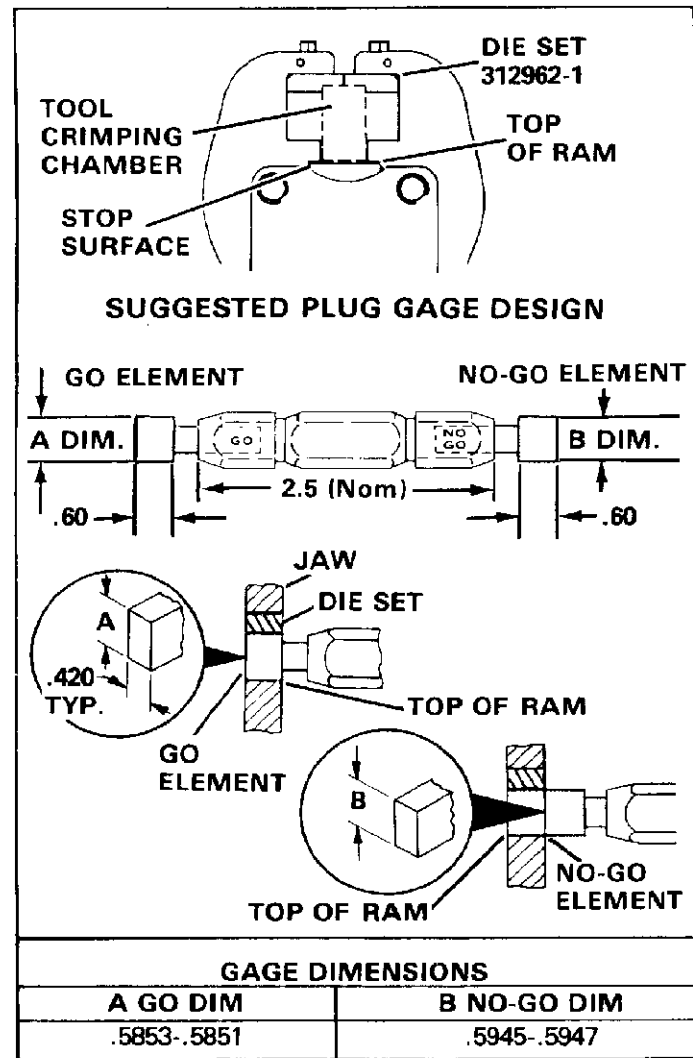

Fig. II-2
This inspection requires the use of a GO NO-GO gage conforming to the dimensions in Figure II-2. AMP does not market or manufacture these gages. To perform this inspection, proceed as follows:
3. Align the GO element with the crimping chamber so that the top and bottom of the gage align with surfaces of the die inserts and ram. Push element straight into the crimping chamber without using force. The GO element must pass completely through the chamber as shown in Figure II-2.
4. Now align the NO-GO element and try to insert it into the same crimping chamber. The NO-GO element may start entry but must not pass completely through. Refer to Figure II-2.